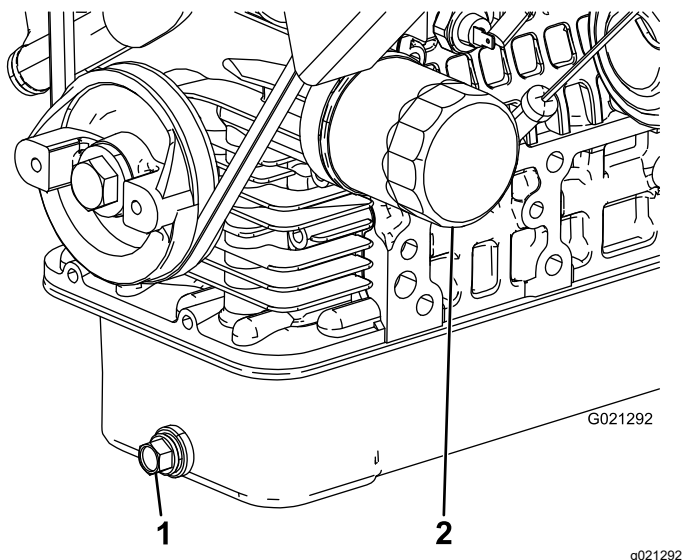

Figure 37
2. Remove the drain plug and let the oil flow into a drain pan (Figure 37).
4. Remove the oil filter (Figure 37).